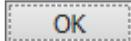

**Figure 3.2.1-5 Confirmation Message**
- System will display a Confirmation Message as Figure 3.2.1-5